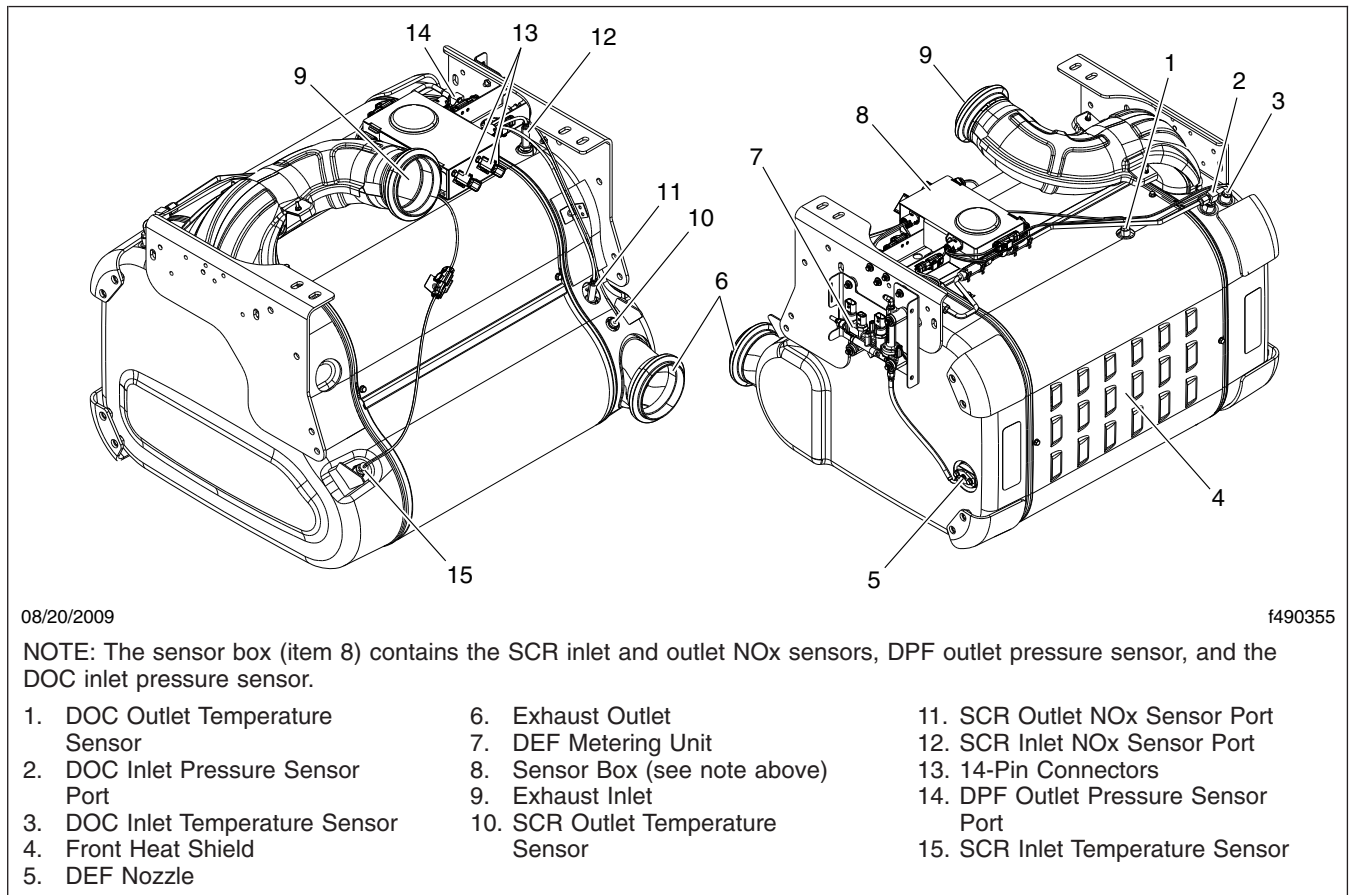
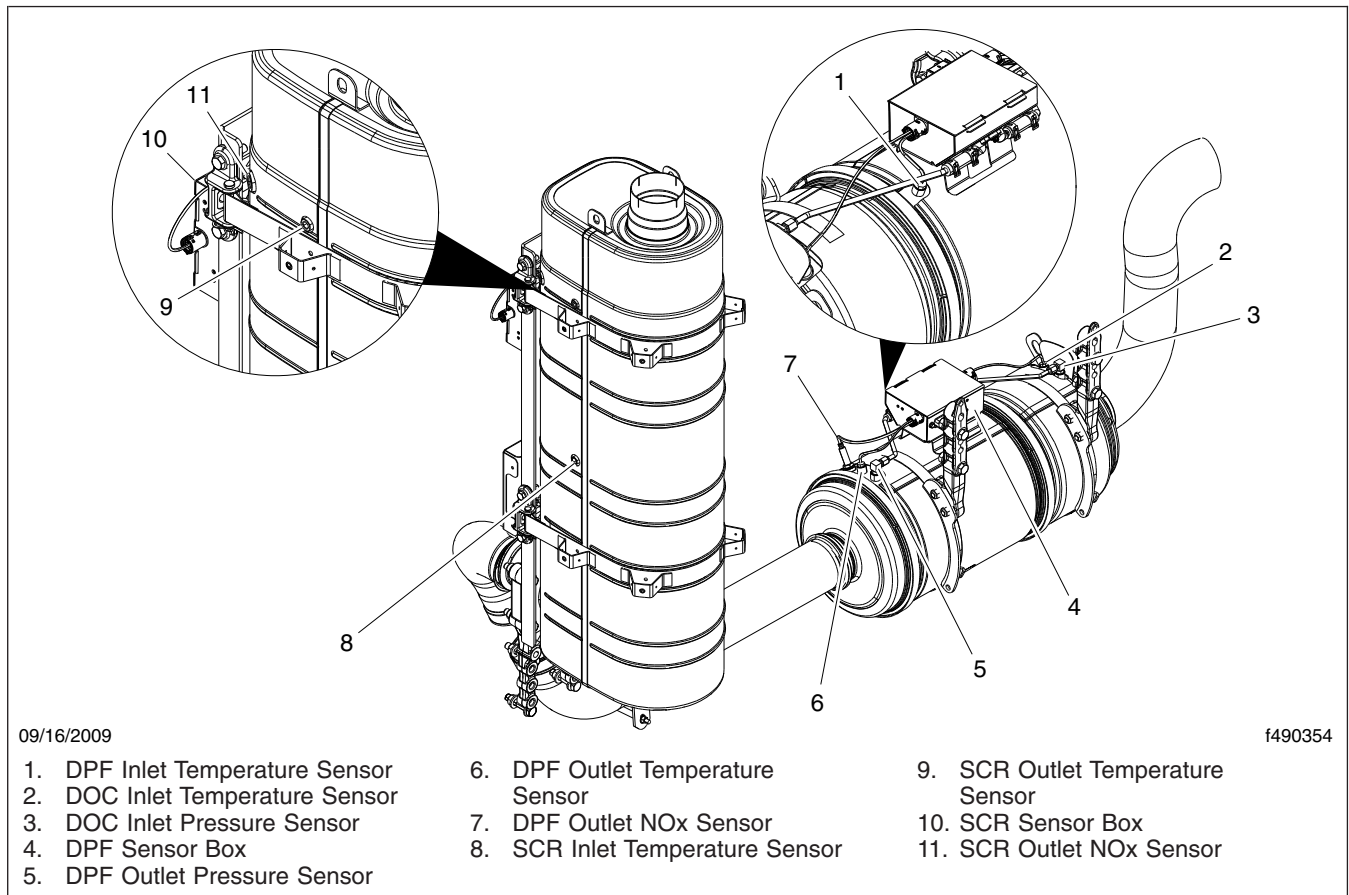

Fig. 1, One-Box ATS Sensor Locations
Fig. 3, 2HV Two-Box ATS Sensor Locations
6. Check all sensors attached to the ATS for leaks or damaged wires. No leaks are allowed. See Fig. 1, Fig. 2, or Fig. 3 for Detroit Diesel ATS sensor locations.